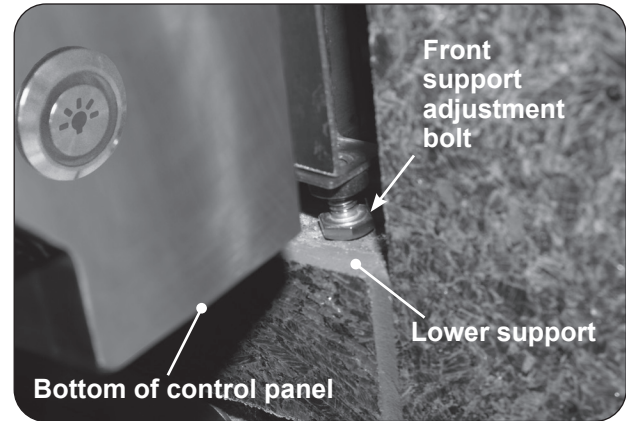

Fig. 28-1 Front support adjustment bolts
3. Rotate the front support adjustment bolts (up or down) until the grill hanger rests flush on the countertop, AND, the adjustment bolts are touching the supporting structure found at the bottom of the cutout (lower support). Use a  $\frac{7}{16}$ " open-end wrench as needed. See Fig. 28-1.